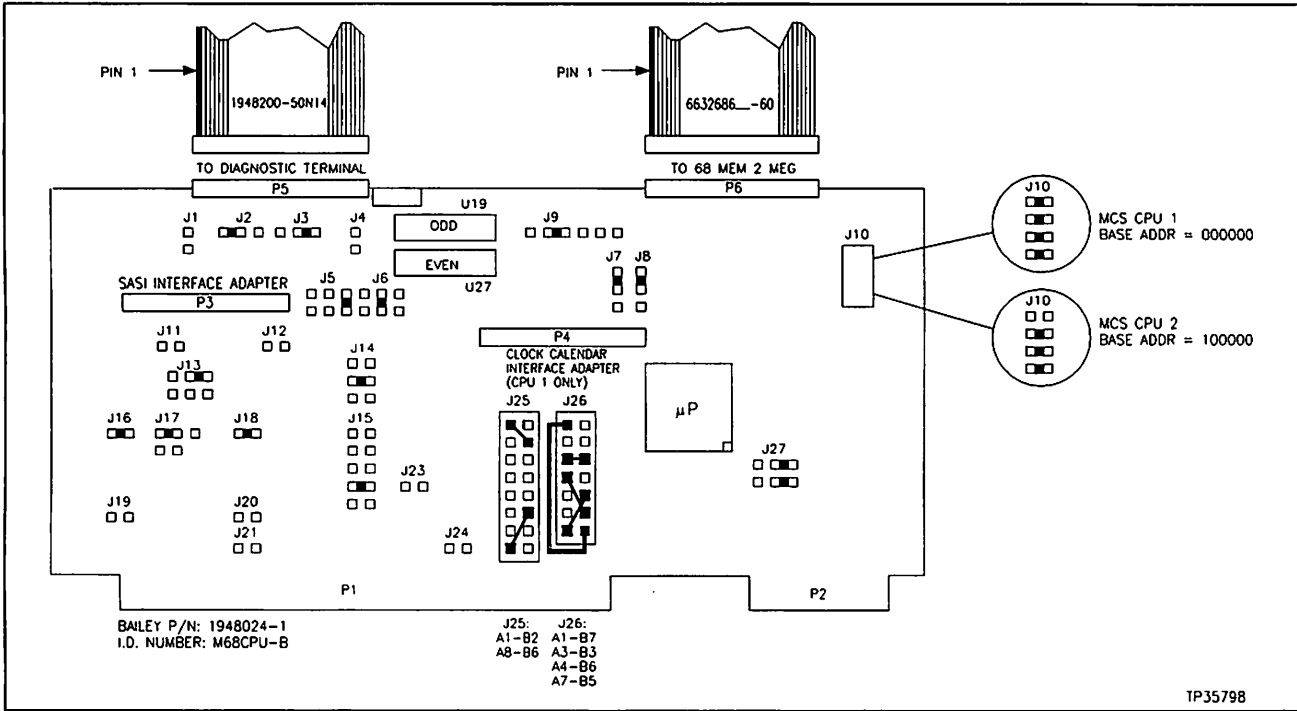

Figure 4-31. CPU 2 Card
3. Mount the SCSI interface board to the CPU 2 card. Figure 4-31 shows the CPU 2 card and its card cage location. Slide the CPU about halfway out of the card cage. Connect jumpers J-25 and J-26 as shown in Figure 4-31.